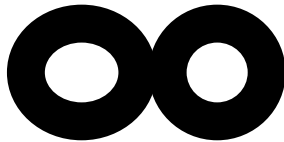
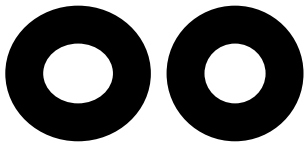
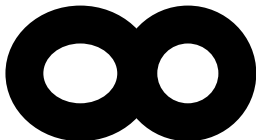

Fig. 1: CORRECT OVERLAP with Angle Knob at 7 o'clock Position.
Fig. 2: INCORRECT SEPARATION with Angle Knob at 7 o'clock Position.
Fig. 3: INCORRECT OVERLAP with Angle Knob at 7 o'clock Position.
3. Turn Angle Knob clockwise until indicator mark is at 7 o'clock position. If HW1000 or HW1500 Honing Wheels overlap 1/16" or LESS (**Fig. 1**) turn Angle Knob counterclockwise until indicator mark is at 4 o'clock position between White & Blue Dots & begin Step 6.
4. If HW1000 or HW1500 Honing Wheels are NOT OVERLAPPED (**Fig. 2**) with Angle Knob indicator mark at 7 o'clock position, turn Angle Knob counterclockwise one revolution until indicator mark is at 7 o'clock position. Repeat this step until overlap is 1/16" or LESS (**Fig. 1**) with Angle Knob indicator mark at 7 o'clock position. Turn Angle Knob counterclockwise until indicator mark is at 4 o'clock position between White & Blue Dots & begin Step 6.
5. If HW1000 or HW1500 Honing Wheels overlap MORE than 1/16" (**Fig. 3**) with Angle Knob indicator mark at 7 o'clock position, turn Angle Knob clockwise one revolution until indicator mark is at 7 o'clock position. Repeat this step until overlap is 1/16" or LESS (**Fig. 1**) with Angle Knob indicator mark at 7 o'clock position. Turn Angle Knob counterclockwise until indicator mark is at 4 o'clock position between White & Blue Dots & begin Step 6.